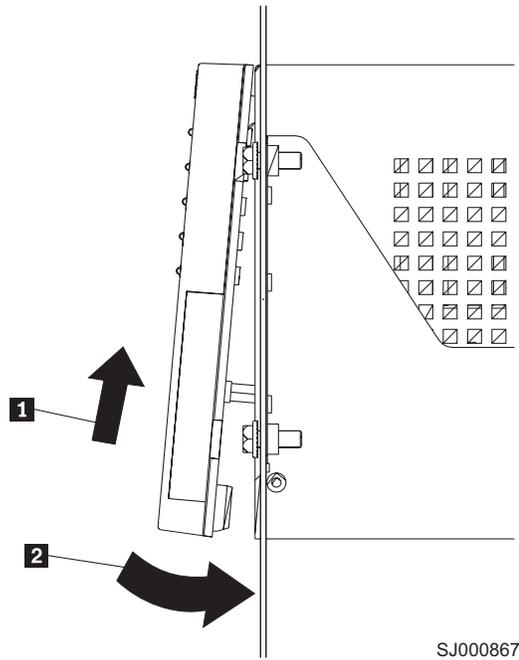

Figure 8. Replacing the controller-unit bezel (machine types 3552 and 1742)
4. To replace the bezel, slide the top edge under the lip on the chassis **1** ; then, push the bezel bottom until the pins snap into the mounting holes **2** , as shown in Figure 8 on page 19.